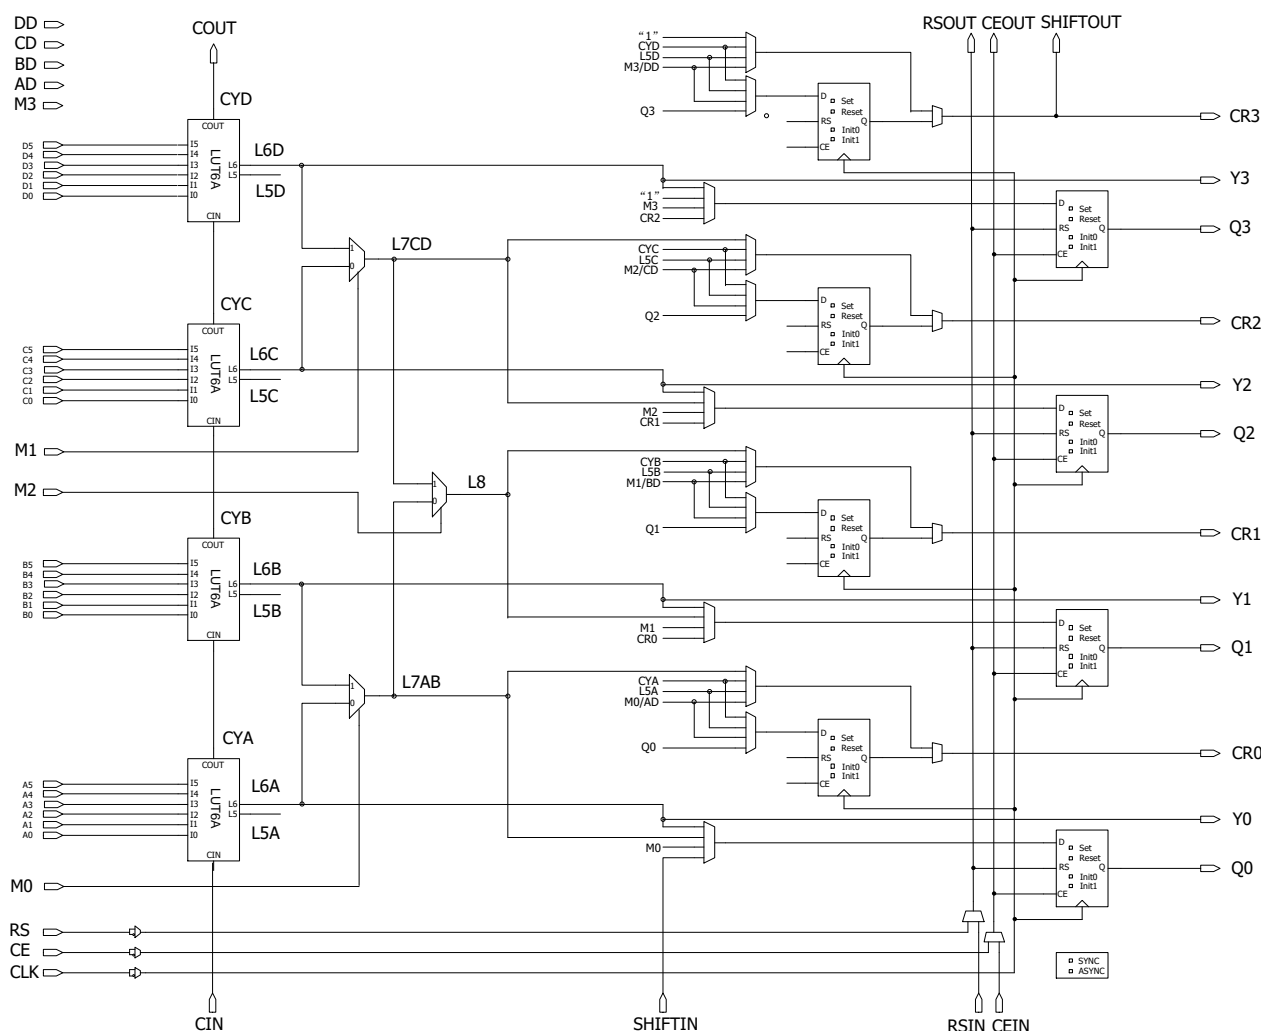

Figure 2-1 Logic Block Diagram of CLMA
**Figure 2-1.** Each CLMA contains 4 LUT6s, 8 registers, multiple extension function selectors, and four independent cascade chains. (For clarity, hereinafter LUT6A will be used as a collective term for the four LUT6s in CLMA, with the LUT6A units having inputs A0~A5, B0~B5, C0~C5, and D0~D5 referred to as LUT6A\_A, LUT6A\_B, LUT6A\_C, and LUT6A\_D respectively.) LUT6A features an innovative architectural design that integrates dedicated circuits on top of a 6-input lookup table to achieve a 4:1 multiplexer function and fast arithmetic carry logic; the extension function selector is mainly used to implement wide-bit lookup tables and output selection functions; the cascade chains include arithmetic logic carry chains (from CIN to COUT), dedicated shift register chains (from
Figure 2-1 and